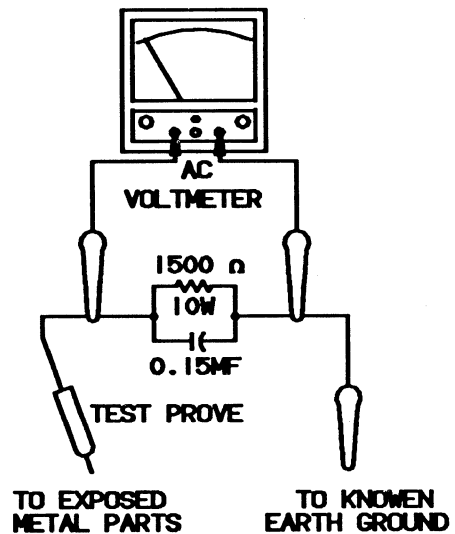

Figure 1 ,leadage current circuit
- Use a SSVM or VOM with 1000 ohms per-volt or higher sensitivity to measure the AC voltage drop across the resistor. (See Figure 1.)